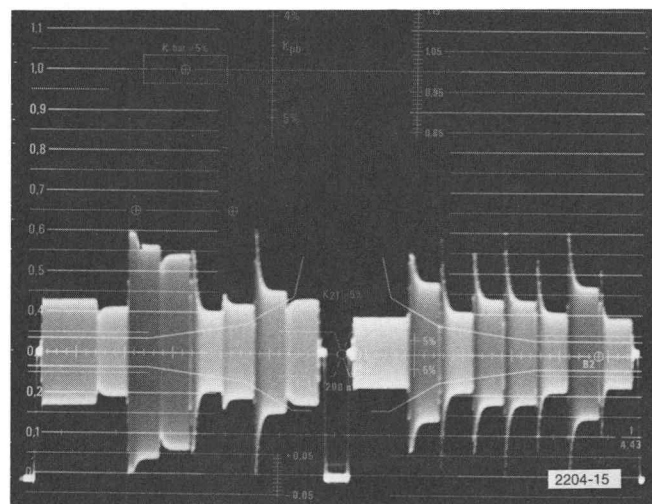

Fig. 1-15. No Luminance on Color Bar signal.
7. Y: Set the Y switch to OFF and note that both lines are now displayed without luminance, see Fig. 1-15.